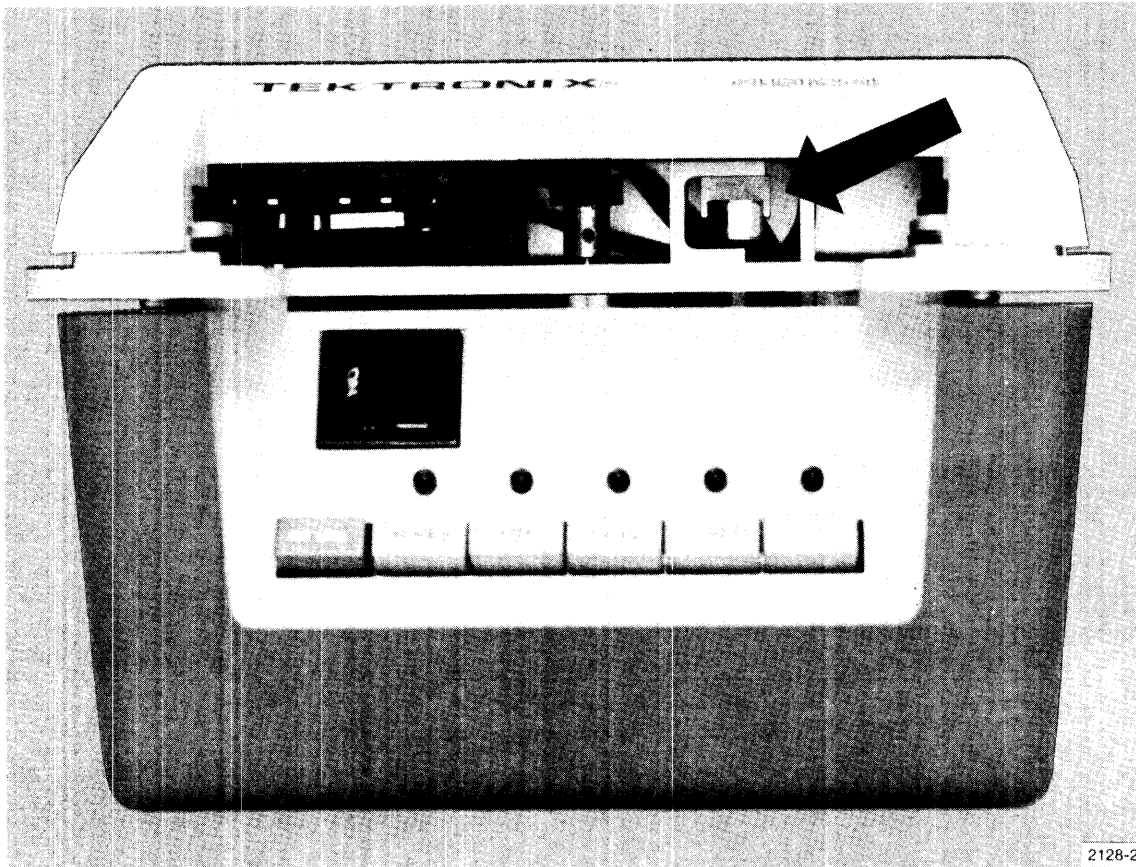
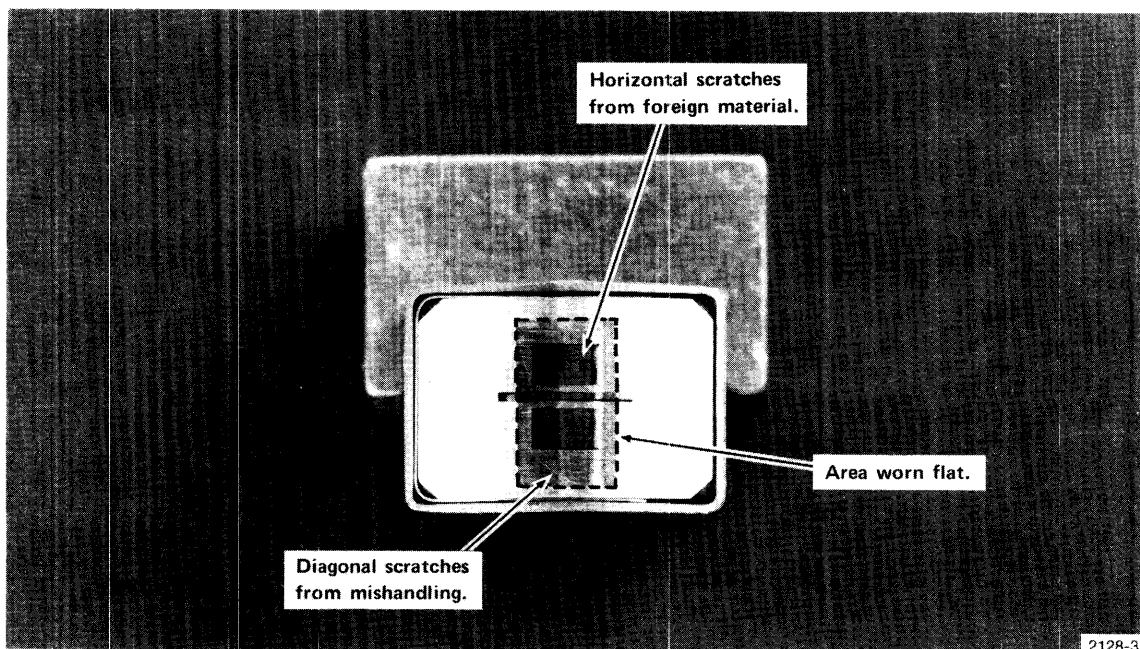

Fig. 2-3. Tape head location.
Fig. 2-4. Tape head damage.
The surface of the tape head (Fig. 2-3) must be kept clean in order to accurately read and write data to and from the tape. Tape head life and data reliability are directly related to Cartridge Care and tape head care. Oxide deposits from the tape, along with dust and other foreign particles, may be deposited on the tape head during operation. This alone may cause data errors by increasing the space between the tape and the head. In addition, these particles act as abrasives when propelled across the head by tape motion, thus increasing head wear and reducing head life.
1. Inspect the head (Fig. 2-3) by shining a light, such as a penlight, across the surface of the head at an angle. This will reveal accumulations of foreign material, and will also reveal damage to the head. If the head is scratched, scored, or excessively worn (Fig. 2-4), it should be replaced. If the head is dirty, continue with this procedure.